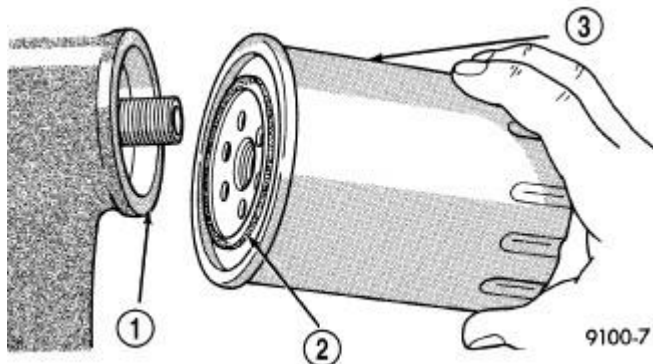

Fig. 319: Installing Engine Oil Filter
2. Thread filter onto adapter nipple. When gasket makes contact with sealing surface, hand tighten filter one half turn, or 180°, do not over tighten. Refer to **Fig. 319**.